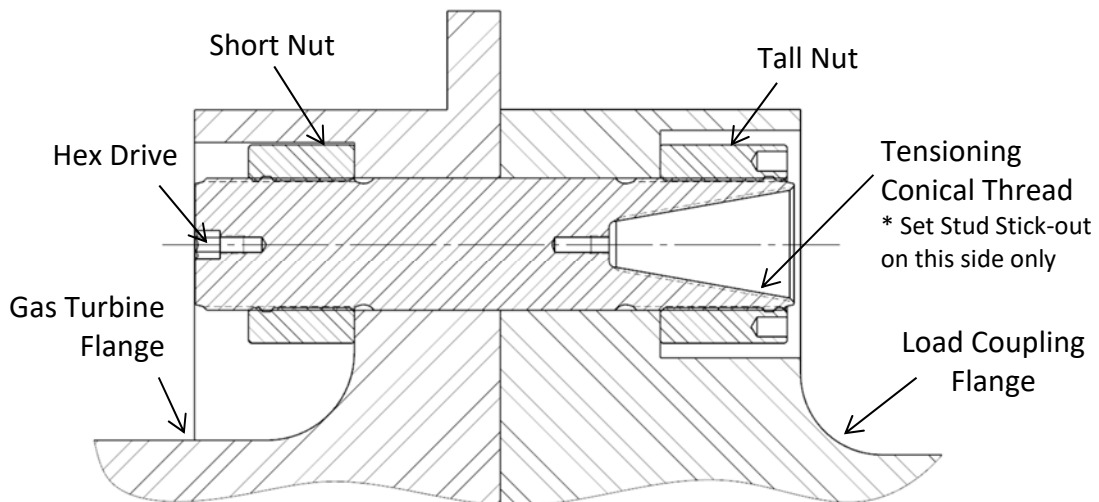

Figure 6A – Cross-section View of Gas Turbine to Load Coupling Bolted Flange Connection
2. Slide the stud and cylindrical nut assembly into the flange as shown in Figures 6A and 6B.